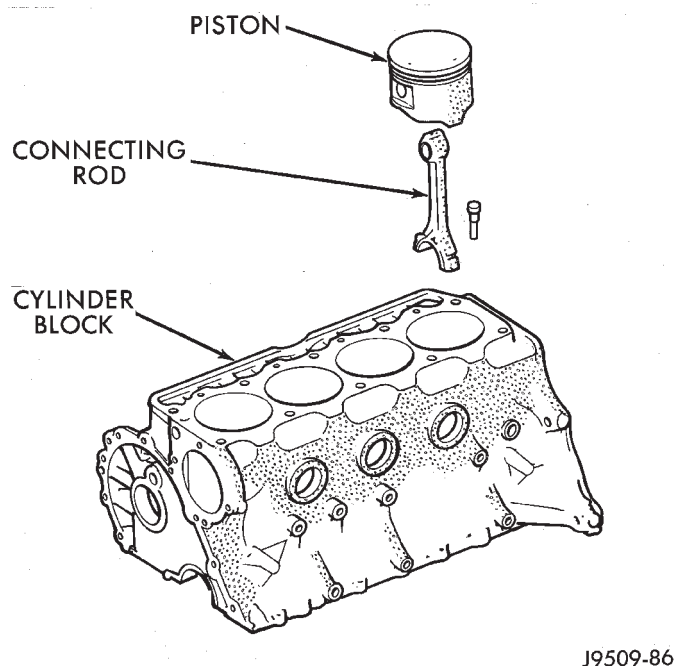

Fig. 64 Removal of Connecting Rod and Piston Assembly
(11) Have an assistant push the piston and connecting rod assemblies up and through the top of the cylinder bores (Fig. 64).